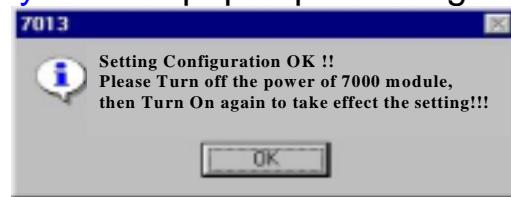

Figure 2-6-2. Setting Configuration OK!!
- Then the **7000 Utility** window pops up as in Figure 2-6-2.